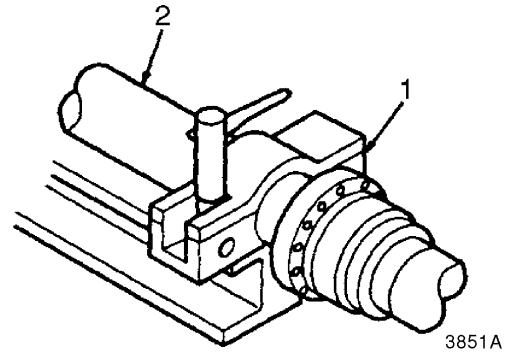

Figure 33
18. Slide cylinder head assembly (1, Figure 33) onto cylinder rod (2). Use caution to prevent threads on rod from damaging seal inside cylinder head.